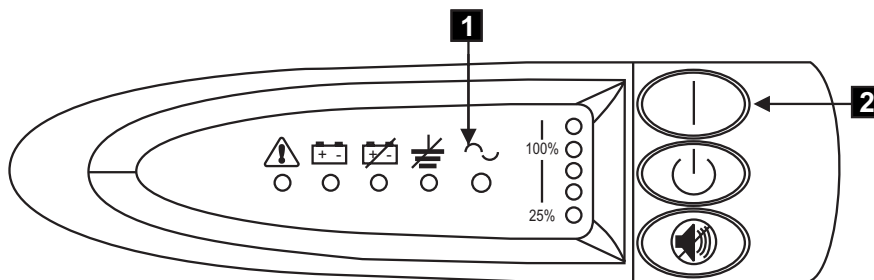

Figure 42. Power switch and indicators on the 2145 UPS
10. All front panel indicators of the 2145 UPS flash for a short time while the 2145 UPS runs a self-test. When the test is complete, the mode indicator **1** flashes to show that the 2145 UPS is in standby mode; see Figure 42.
Press and hold the 2145 UPS On button, **2** in Figure 42, until you hear the 2145 UPS beep (approximately one second). The mode indicator stops flashing and the load-level indicators display the percentage of load that is being supplied by the 2145 UPS. The 2145 UPS is now in normal mode and is charging its battery.